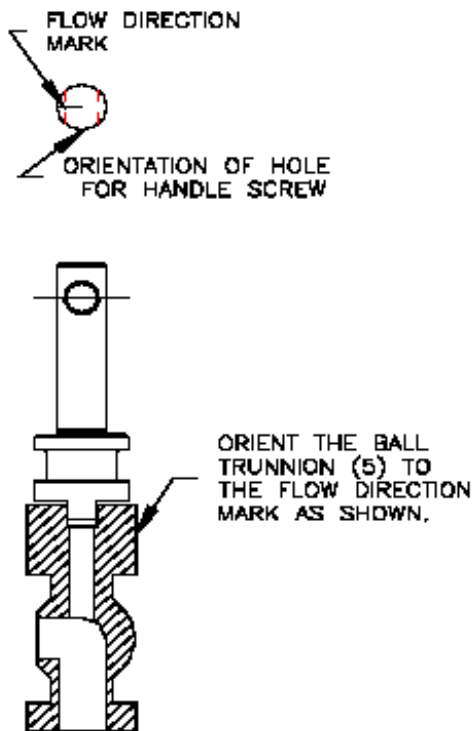

Figure 3: Stem Assembly and Orientation
Note: The port orientation is important when assembling the STEM (4) and BALL TRUNNION (5). Keep the orientation consistent with Figure 1 and Figure 3.
7. Lubricate the STEM O-RING BACK-UP (12) and STEM O-RING (13) with the same type lubricant as in Step 1. Insert the STEM ASSEMBLY (Handle side first) from Step 6 into the bottom of the VALVE BODY (18) until the STEM (4) drops through the stem hole of the VALVE BODY (18). Insert a pin through the STEM (4) handle screw hole and pull the STEM ASSEMBLY until it bottoms in the VALVE BODY (18) stem bore.
8. Lubricate the BALL TRUNNION (5) with the same type lubricant as in Step 1. Holding the VALVE BODY (18) with the bottom port on top, drop the BALL TRUNNION (5) through the bottom port (slot end first). Turn the STEM ASSEMBLY until the BALL TRUNNION (5) and the STEM ASSEMBLY engage (Refer to Figure 3 for proper orientation).
9. Turn the STEM (4) to assure the side hole is 90° (in the off position) from each of the side ports of the VALVE BODY (18).
10. Insert one of the PORT END CONNECTOR (6) sub-assemblies from step 3 into one port of the BODY (18). Thread the PORT END CONNECTOR (6) into the BODY (18) until it is finger tight against the BALL TRUNNION (5).
11. Insert second of the PORT END CONNECTOR (6) sub-assembly from step 3 into the opposite port of the BODY (18). Thread the PORT END CONNECTOR (6) into the BODY (18) until the it is finger tight against the BALL TRUNNION (5).
12. Torque the two PORT END CONNECTOR (6) in the assembly at the same time to 50 Ft-lbs +5/-5 Ft-lbs. (A gap will still be present between the end of the BODY (18) and the PORT END CONNECTOR (6)).
13. Place the HANDLE (1) on to the STEM (4) and orient HANDLE (1) to the mark as shown in Figure 3.
14. Insert SET SCREW (2) through the HANDLE (1) and STEM (4) and tighten to 15 in-lbs +2/-2 in-lbs.